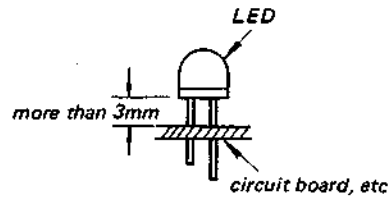

Fig. 1
- 1) Perform the soldering within 5 seconds with a soldering iron below 25W. The clearance between the end of the diode's body and the circuit board should be more than 3 mm ($1/8''$) (Fig. 1).